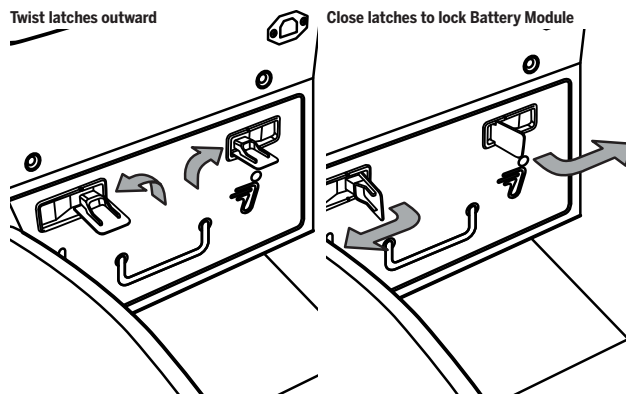

Figure 36: Twist and close the Battery Module Latches
4. Twist the latches and fold them back (**Figure 36**) to lock the Battery Module.